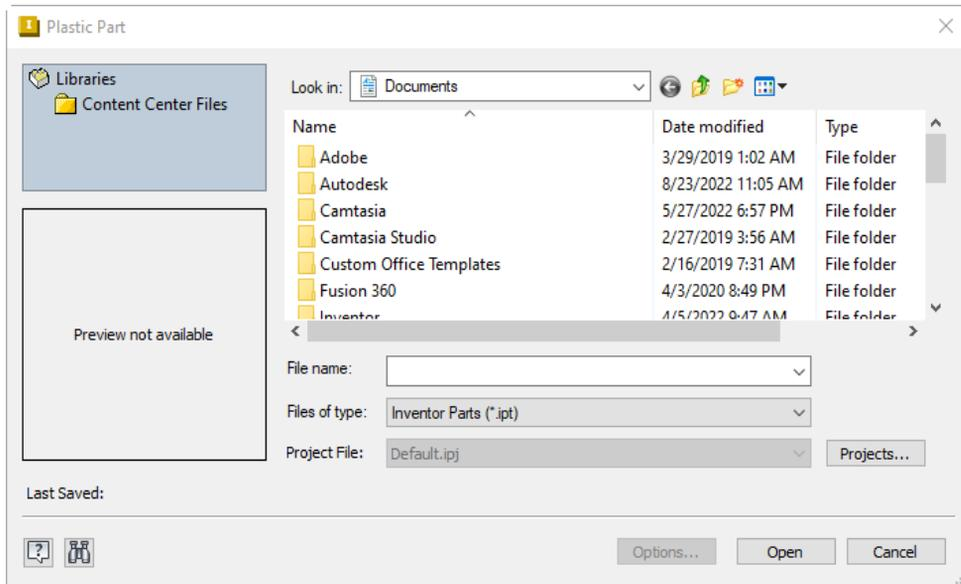

Figure 19-46 The *Plastic Part* dialog box
1. Choose the **Plastic Part** tool from the **Plastic Part** drop-down in the **Mold Layout** panel of the **Mold Layout** tab in the **Ribbon**; the **Plastic Part** dialog box is displayed, as shown in Figure 19-46.